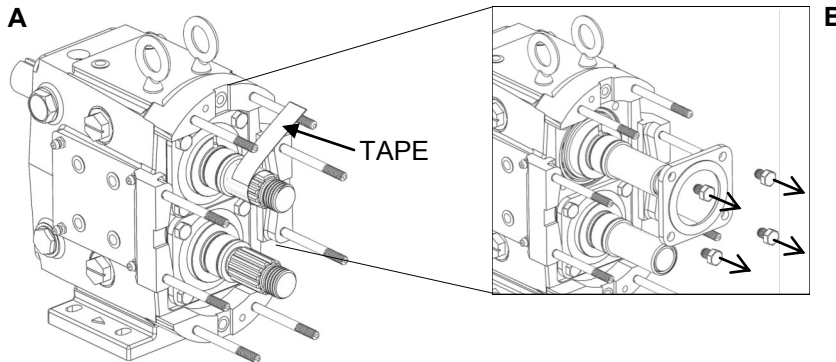

Figure 39: Tape Shafts and Remove Bearing Retainers
3) To prevent damage to the shafts, wrap the splines and rotor nut threads with tape (Figure 39, A). Any damage to the splines or threads may require the shaft be replaced. Remove the cap screws holding the bearing retainers in place and slide both bearing retainers off the shaft (Figure 39, B). If they are stuck, use a flat head screw driver as a wedge to pry them from the gear case or leave them in place and when the shafts are removed they will press off with the shafts. Using a straight edge, remove the liquid gasket used to seal bearing retainer to the gear case.